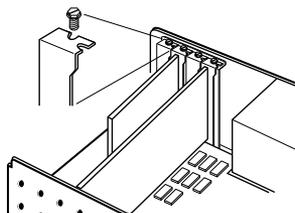

Figure 2-1 Inserting the adapter in an expansion slot
- 3 Push the adapter down into the slot until the adapter locks into place, as illustrated in Figure 2-1.